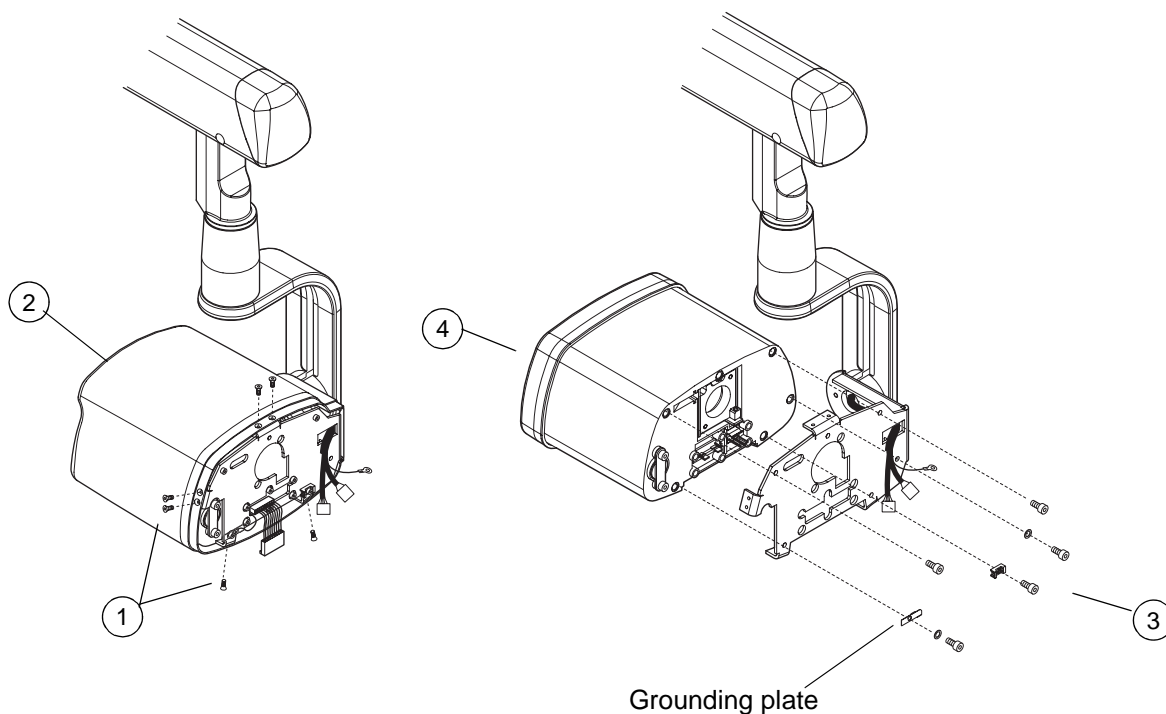

Figure 17
2. Unscrew the six fastening screws of the tube head cover (figure 17, 1) and remove the cover (figure 17, 2).
3. Unscrew the five screws from the support frame (figure 17, 3) and remove the tube head (figure 17, 4). Note, that there is a grounding plate under the lower left attachment screw.